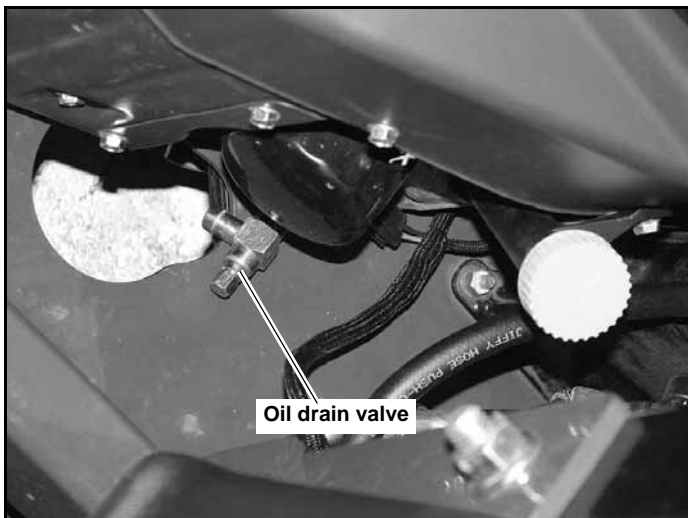

Figure 4-6
#### B. Draining the engine oil (units equipped with oil drain valve as shown in Figure 4-6).
1. Locate the oil drain valve on the engine. Figure 4-6